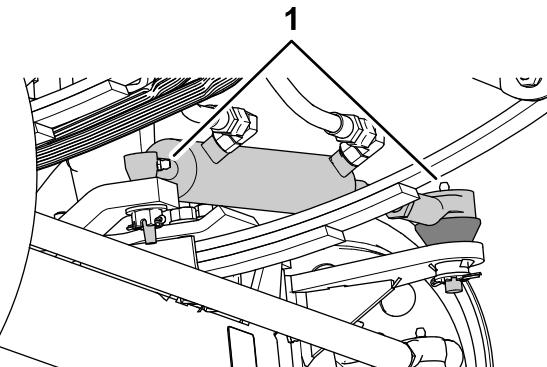
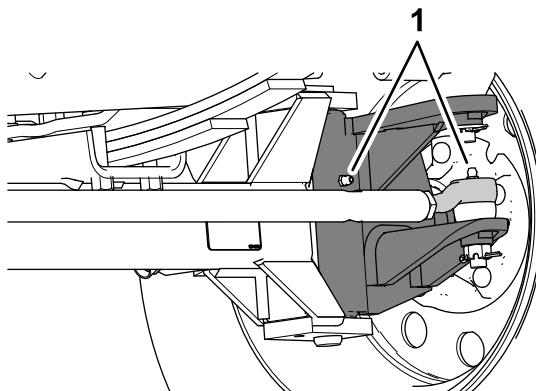

Figure 66
Figure 67
1. Wipe the grease fittings clean (Figure 66 and Figure 67).
2. Pump grease into the grease fittings (Figure 66 and Figure 67).
**Note:** The grease fittings positions are illustrated in Figure 66.